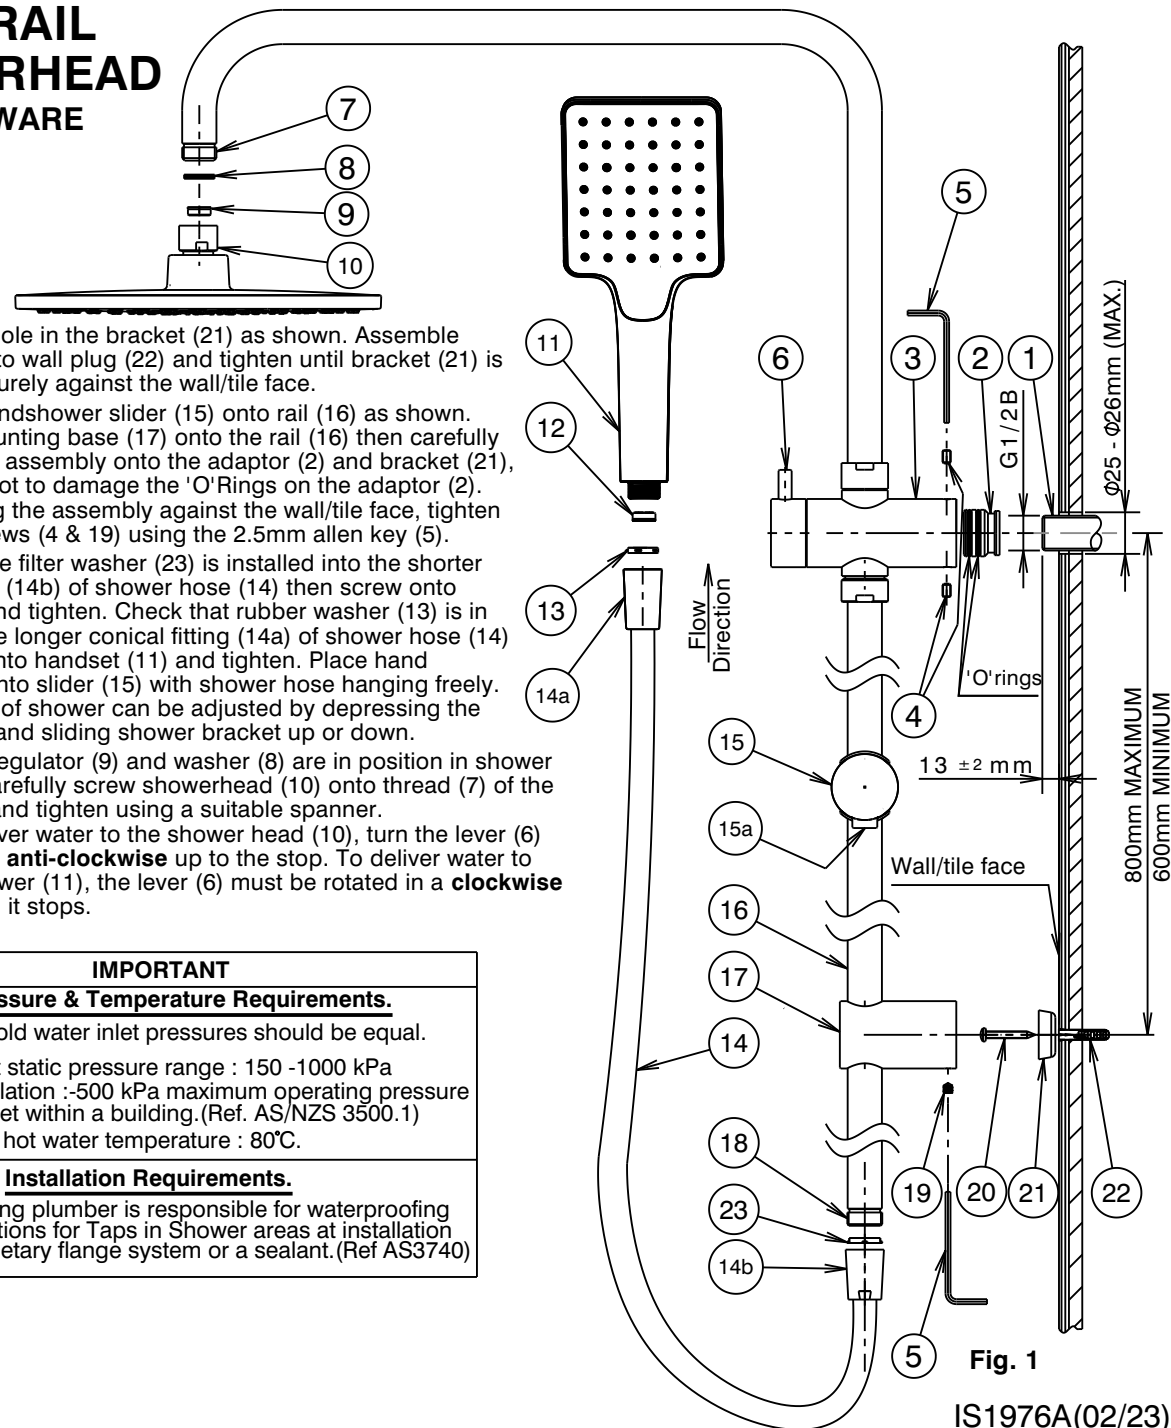

Fig. 1
- Loosen grub screws (4) using 2.5mm allen key (5) & remove inlet adaptor (2) from diverter (3). Screw inlet adaptor (2) onto threaded nipple (1) & tighten until its back face has bottomed against the wall/tile face. DO NOT OVERTIGHTEN.
- Mark the position for the shower rail mounting base (17) at a suitable distance from the threaded nipple (1). (Fig.1). Make sure the marked holes are vertically aligned before proceeding.
- Insert small end of wall plug (22) into drilled hole and tap until flush with surface.
- Loosen grub screw (19) using 2.5mm allen key (5) & remove bracket (21) from mounting base (17). Pass the screw (20)